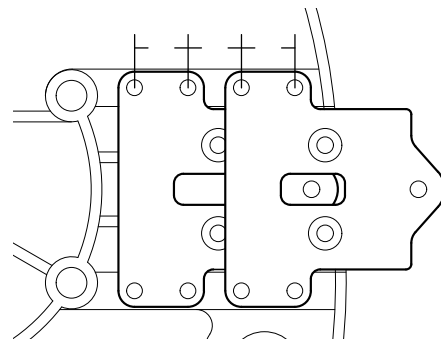
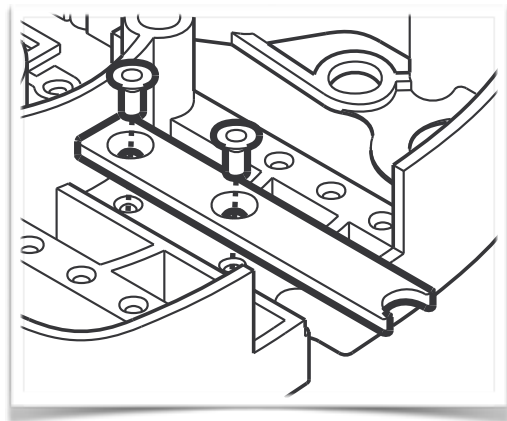

figure 1
figure 2
Once the back plate is removed the Shift unit mounting positions will be accessible, you can move the paddle units on the platform bar by removing the (4) T8 screws and moving the paddle to a new position. (see fig 1) Each movement is 10mm in distance for a total of 30mm change that can be made on each side of the wheel. Only tighten the torque screws until snug and there is no play in the mounting plate, too much torque can result in stripping the plastic mount. Once done with one paddle do the same for the paddle on the other side. When moving the paddles to their outermost locations (20mm) we recommend installing the included Paddle Brace plates (figure 2) to limit the amount of flex due to leverage on the paddle mounts.